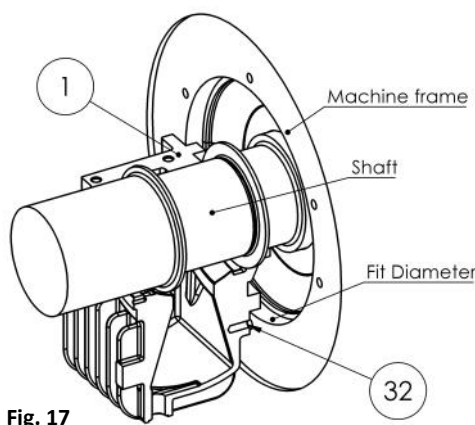

Fig. 17
- Align the cleaned lower part of the housing (1) (Fig. 17) with the machine frame and fasten the bolts (33) to the appropriate torque value per the table.
- Tighten the screws into the tapped hole (32) on the bottom half of the housing from the inner part of the machine shield to the appropriate torque values per the table.